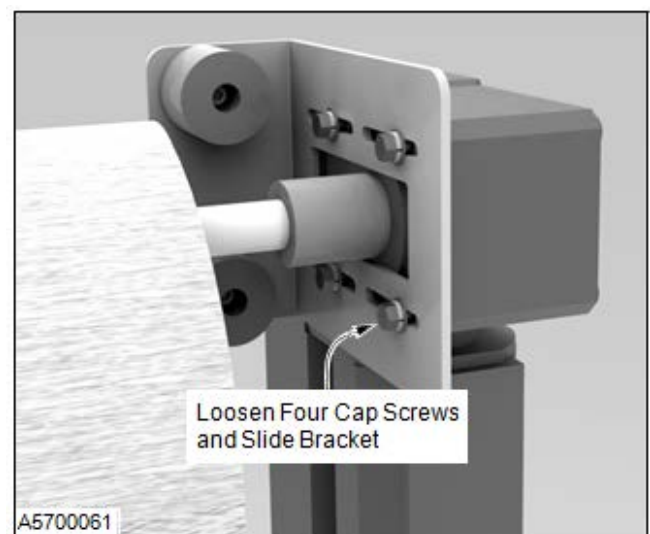

Figure 51
6. Loosen the four cap screws and slide the isolator bracket away from the side column. (See Figure 51)